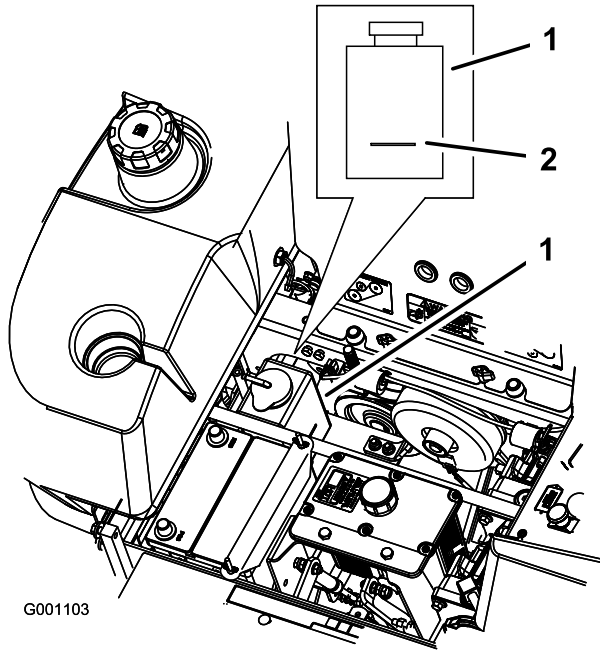

Figure 57
3. With the engine cool, check the overflow bottle level. The fluid needs to be up to the bump on the outside of the overflow bottle (Figure 57).
4. If the coolant level is low, add a 50/50 mix of extended life antifreeze and water to the overflow bottle (Figure 57).
5. Add the 50/50 coolant mix to the overflow bottle and fill it to the indicator line on the bottle (Figure 57).